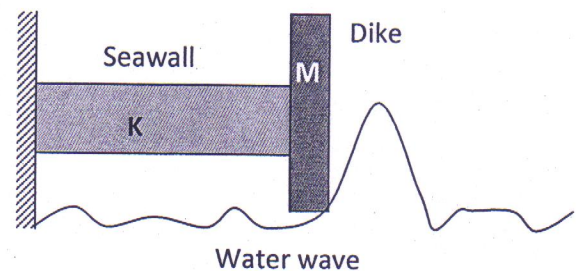

Fig. 1
- Q.1 (b) Refer to fig. 1. A water wave hits a seawall. The force exerted by the wave can be modelled as 05